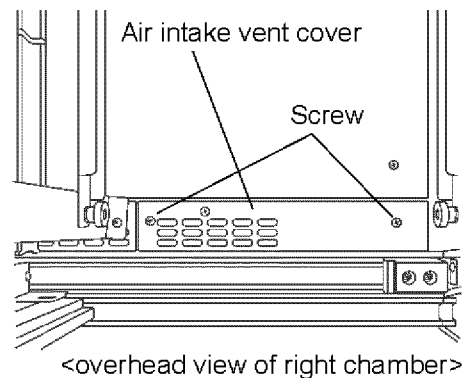

Fig. 16
5. Unscrew 2 screws on the air intake vent cover (right side) on the front bottom and then remove the air intake vent cover. [Fig. 16]